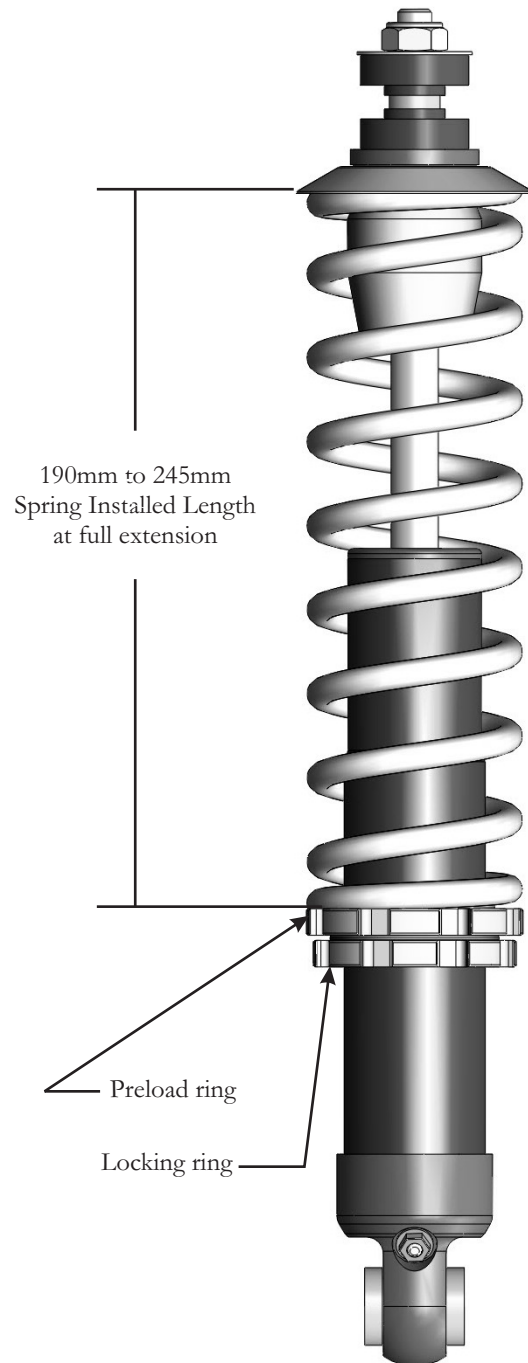

Figure 5
4. Spring pre-load adjustments are made with the supplied preload adjusting wrench by first loosening the lower locking ring, then adjusting the upper preload ring (figure 5). Once the proper preload has been achieved, re-tighten the locking ring against the adjusting ring. With the shock fully extended, the spring installed length must never be adjusted to a length longer than 245mm (9.65") or shorter than 190mm (7.48").